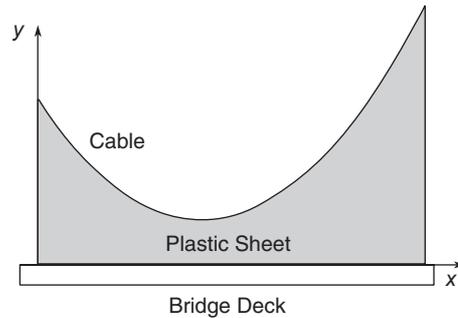

Figure P29
29. The shape of a cable hanging with no load other than its own weight is a *catenary curve*. A particular bridge cable is described by the catenary  $y(x) = 10 \cosh[(x - 20)/10]$  for  $0 \leq x \leq 50$ , where  $x$  and  $y$  are the horizontal and vertical coordinates measured in feet. (See Figure P29.) It is desired to hang plastic sheeting from the cable to protect passersby while